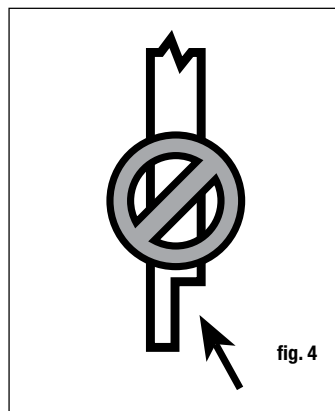

fig. 4
Step 2: Install railing posts prior to installing deck boards. Cedar or pressure-treated pine 4x4 railing posts or a post mount provides the structural strength for the railing. The length of each post is determined by the total of the joist width (typically 7-1/4") + decking thickness (1") + railing height (36") + spacing for post cap (1-1/4") = 45-1/2". Important: Do not notch the 4x4 railing posts. Notching will reduce the strength of the post and could result in railing collapse or failure (fig. 4).
Step 5: Trim 4x4 post sleeves to length. Post sleeves should be a minimum of 1-1/2" longer than the railing height (fig. 4). Example: For a 36" high railing, trim post sleeve to a minimum of 37-1/2" or longer if a higher railing is desired. Slide a trimmed post sleeve over each 4x4 railing post. Post sleeve should slide easily over the post. **DO NOT FORCE** post sleeve onto post. Twisted or crooked 4x4s should be replaced. Slide a post base trim (optional) over each post sleeve for a finished look. *Note: It is recommended to install the post base trim prior to installing the bottom rail. However, the two-piece design does allow the installer to add the post base trim after the rail has been installed. To install, apply a thin line of clear exterior construction adhesive to the inside of the post trim-where it will contact the post sleeve, and snap into place around the base.*
Step 2: Install stair railing posts prior to installing stair treads. Cedar or pressure-treated pine 4x4 railing posts or a post mount provides the structural strength for the stair railing. The length of each post is determined by the total of the stringer width + tread thickness + stair railing height + spacing for post cap. *Important: Do not notch the 4x4 railing posts. Notching will reduce the strength of the post and could result in railing collapse or failure (fig. 4).*